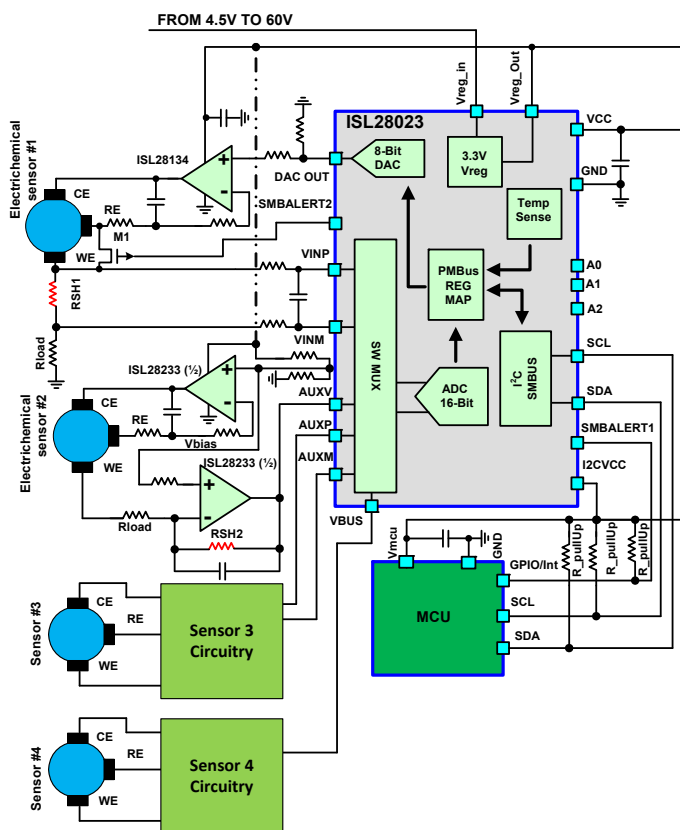

FIGURE 22. A SIMPLIFIED SCHEMATIC FOR GAS SENSING
The ISL28023 is a full featured digital power monitor that has a DAC, ADC and alert comparators. The ISL28023 reduces to an I²C ADC/DAC with alerts. The simplified circuit in Figure 22 is a four element gas sensor.
Most electrochemical sensors are nonbiased (do not require an activation voltage). In the case of measuring a gas concentration using a biased sensor, the ISL28023 has an internal 8-bit DAC with many voltage ranges to bias the sensor. The electrochemical sensor1 in Figure 22 is a biased sensor. The sensor is biased via the internal DAC and the ISL28134. The ISL28134 is a low noise, zero offset chopper stabilized amplifier. The amplifier is used to ensure the solution potential is equal to the DAC output voltage versus current change. The electrochemical solution (electrolyte) between the Counter Electrode (CE) and the Working Electrode (WE) has an impedance. As the concentration of the selective gas increases, more current flows. The increased current flow with electrolyte resistance changes the potential between the WE and CE electrodes. The resultant is a less than predictable conversion of gas concentration to current flow. The Reference Electrode (RE) is an electrode that monitors the solution potential.